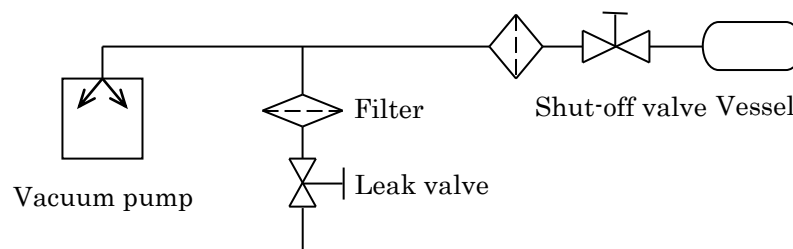

Fig.3.4 Example of Piping Used When Evacuating a Vessel
- 5) When evacuating a vessel, ensure that a shut-off valve is placed between the pump inlet pipe and the vessel (see Fig.3.4).
If it is necessary to maintain a vacuum, attach a shut-off valve or three-way valve between the pump and vessel. Refer to fig.3.4 for a piping example using a shut-off valve.